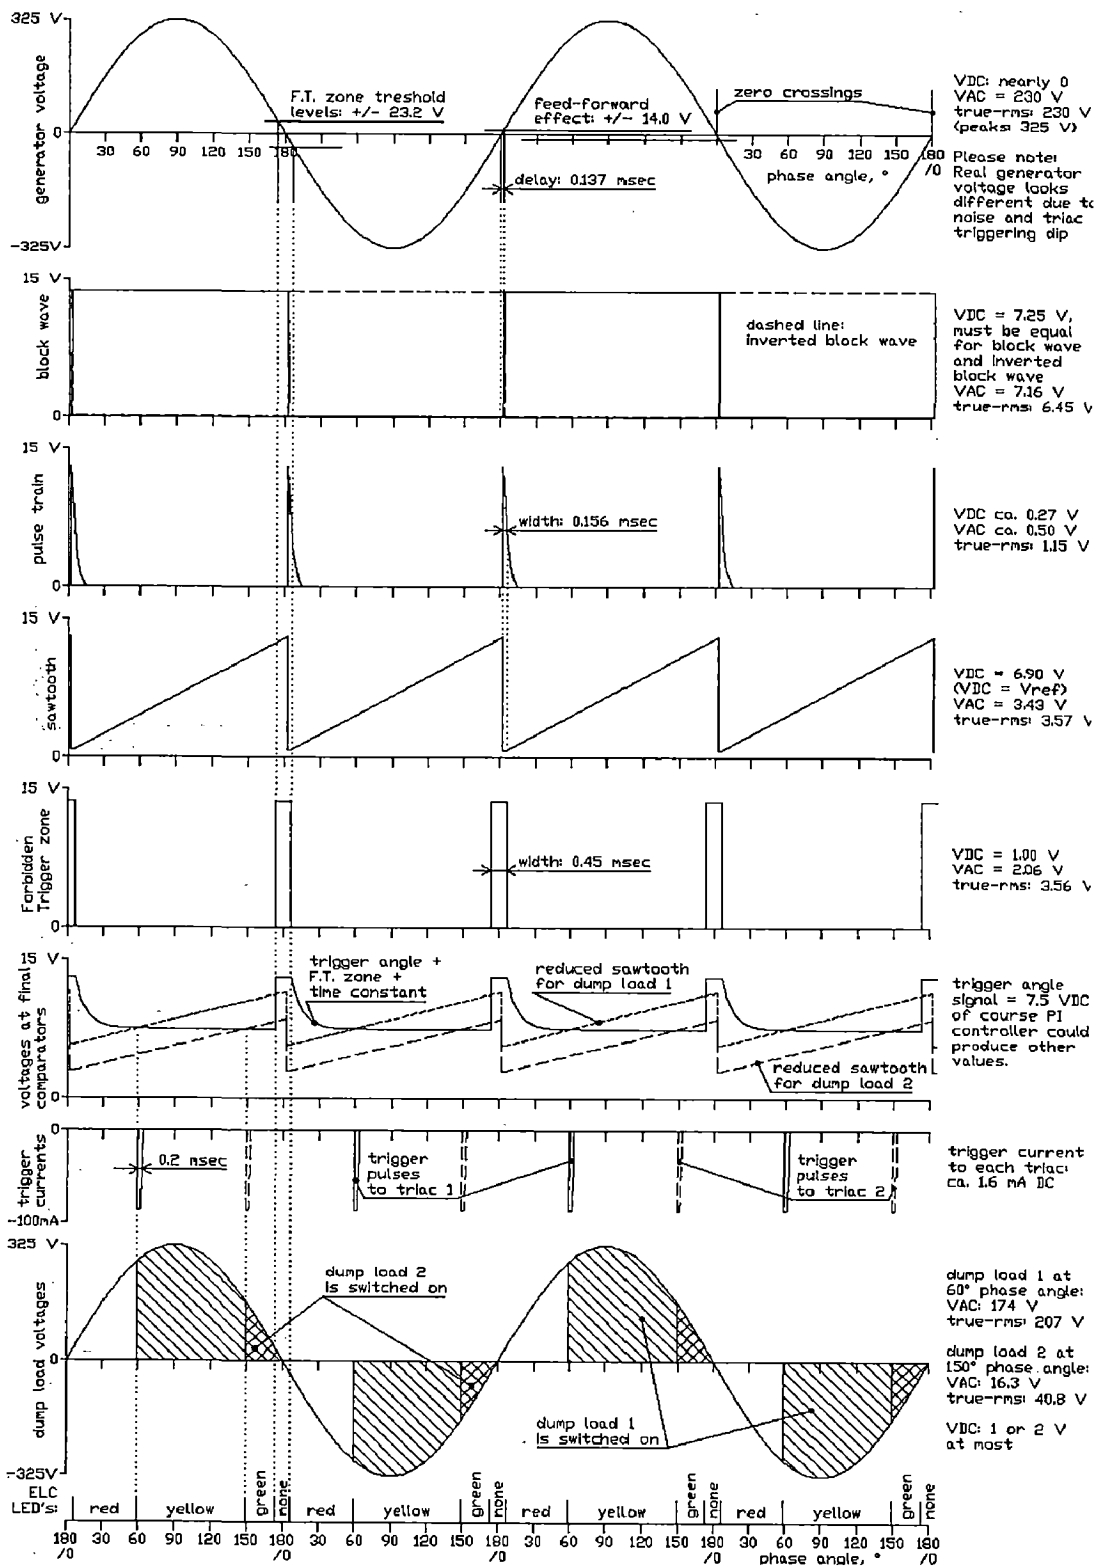

Fig 2.2 Signals
As explained in the previous par., phase angle regulation works by triggering a triac at the right moment during each half period of sine wave shaped generator voltage. For doing this, one should first determine when each half period starts. Here, these moments are called zero crossings, as given in Fig 2.2.
- (ii). Its mean value tells about the frequency at which the generator runs. If frequency is rather low, sawtooth signal rises a bit higher before it is reset by the next zero crossing and its mean value will be slightly higher. If on the other hand frequency is relatively high, mean value of sawtooth signal will be below normal. So its mean value is proportional to the inverse of frequency. This mean value is derived in low-pass filter, after which it is fed to PI controller. Sawtooth signal is derived from generator voltage in 4 steps as shown in Fig 2.2.